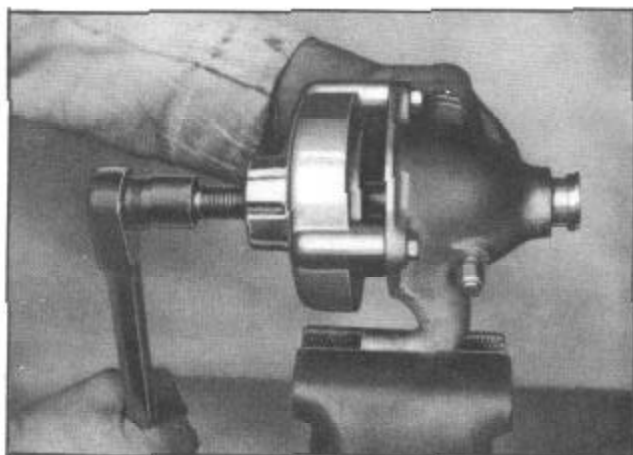

Figure 9--Removing Front Bushing
12. Install thumb screw (No.2) with driver (No.6) in the body (No.1) and press out the front bushing as illustrated in Figure 9.